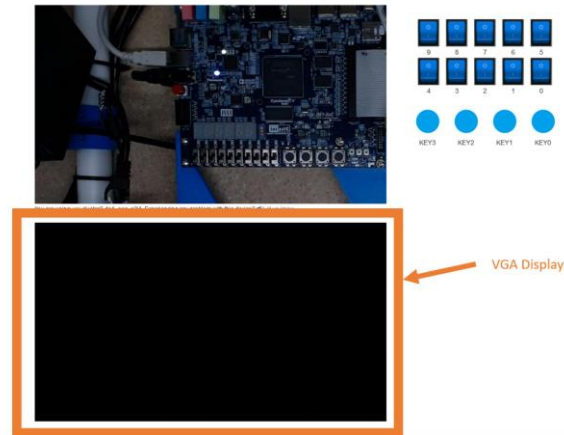

Figure 6: VGA display on LabsLand.
- b) Once the code is synthesized and uploaded onto an FPGA, the VGA monitor will initially produce a rainbow gradient before turning *black* (shown in Figure 6).